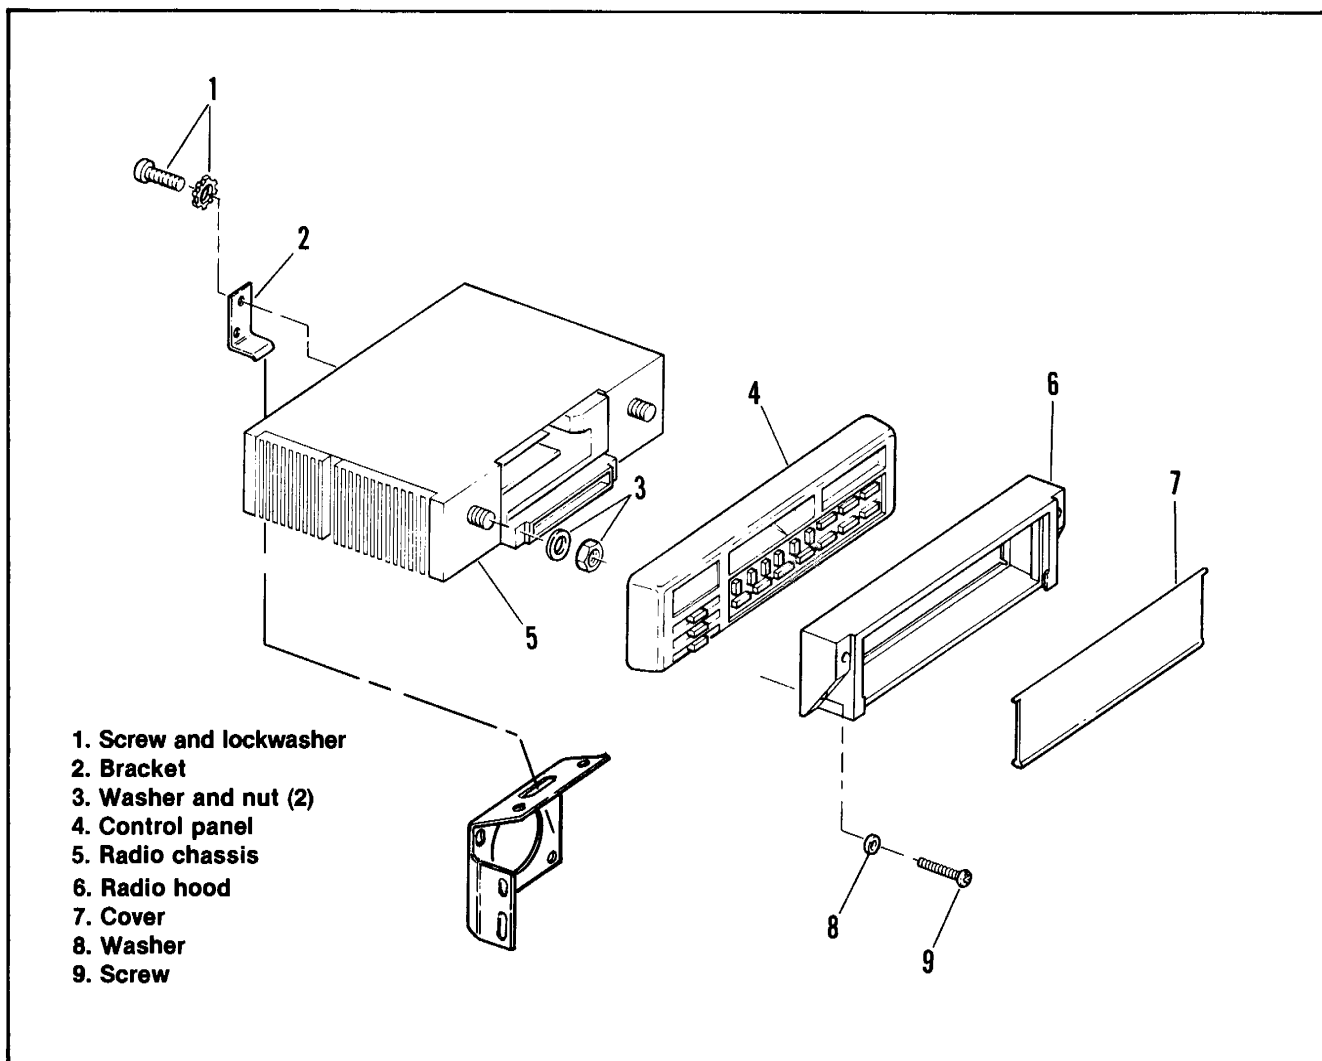

Figure 2-128. Radio Mounting — 1986-1987 FXRD/FXRT
5. See Figure 2-128. Remove screws (9), washers (8), radio hood (6) and control panel (4).
6. Remove nuts and washers (3).
1. See Figure 2-128. Install bracket (2) at back of radio using washer and screw (1).
2. Insert radio through instrument opening and join the electrical connectors that are accessible. Position radio back far enough for bracket (2) to enter retaining slot. Move radio forward so that studs at front of radio enter holes in fairing and bracket (2) slides into retaining slot.